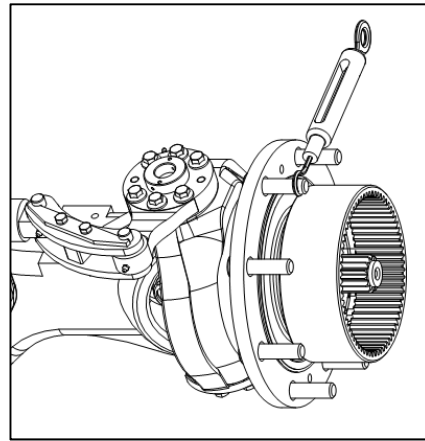

Fig. 2
- (1) Install the rear axle hub assembly into the steering knuckle.
- (2) Rotate the hub for 2-3 turns to correctly place the bearing
- (3) Install the gear ring assembly into the steering knuckle.
- (4) Install the outer half-shaft inner retainer ring (No. 36) into the steering knuckle.
- (5) Apply thread tightening adhesive to the double-head stud (No. 31), and then tighten the hex nut (No. 37) with a tightening torque of 100N. m.
- (6) Rotate the hub for 2-3 turns and measure the starting force of the hub at the tangent direction of the hub bolt. The starting force of the hub should be between 20-55 N. As shown in Fig. 2